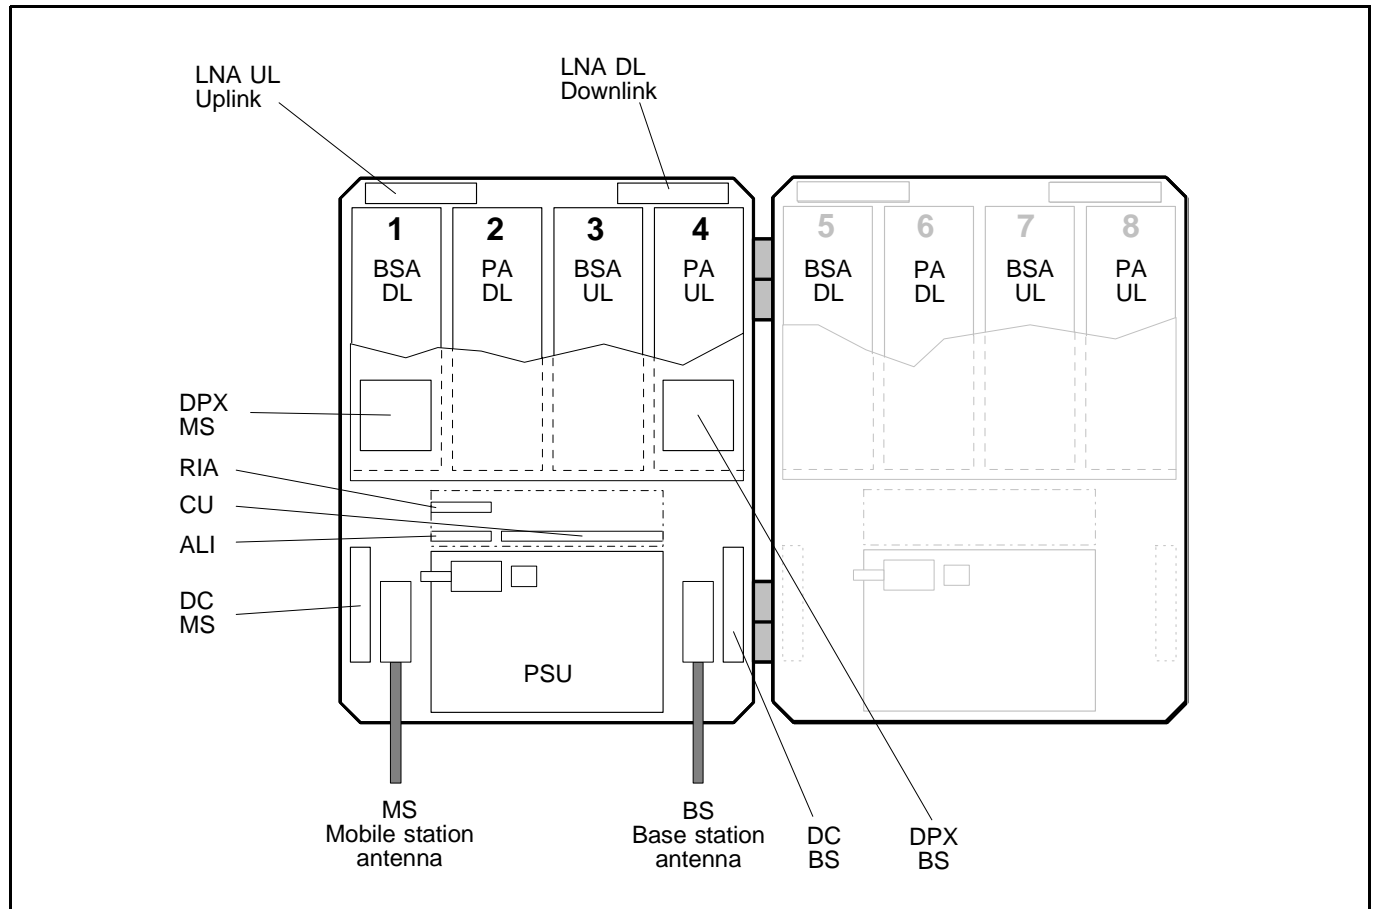

Figure 5-4. Band selective repeater
A cabinet (the left part in Figure 5-4) for a band selective repeater is equipped with two pair of BSA and PA boards, one pair for downlink (DL) and one pair for uplink (ULS). The described cabinet is equipped for bi-directional band selective operation.
The cover (the right part in Figure 5-4) can be equipped as well. The cover board positions are shown in the figure.